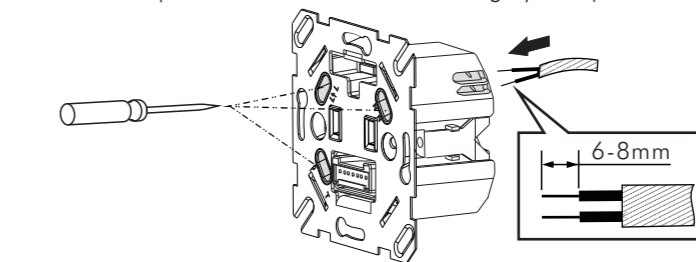

FIG.8
3.3.1.2 Unscrew the terminal and refer to the wiring diagrams (See FIG.6-A to FIG.6-D) to insert the power cables into the corresponding terminal pin jack. Please be noted to strip off 6-8mm of cable sheathing by tool (See FIG.8).